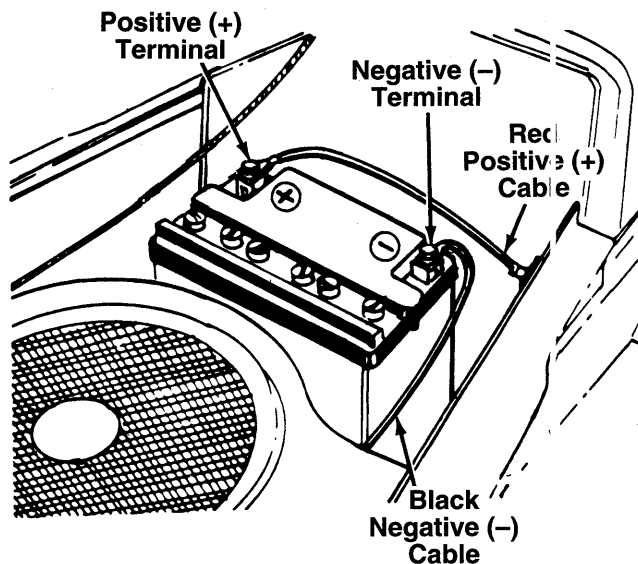

FIGURE 6.
3. Attach the positive cable (heavy red wire) to the positive battery terminal (+) with one hex bolt and hex nut. See figure 6.